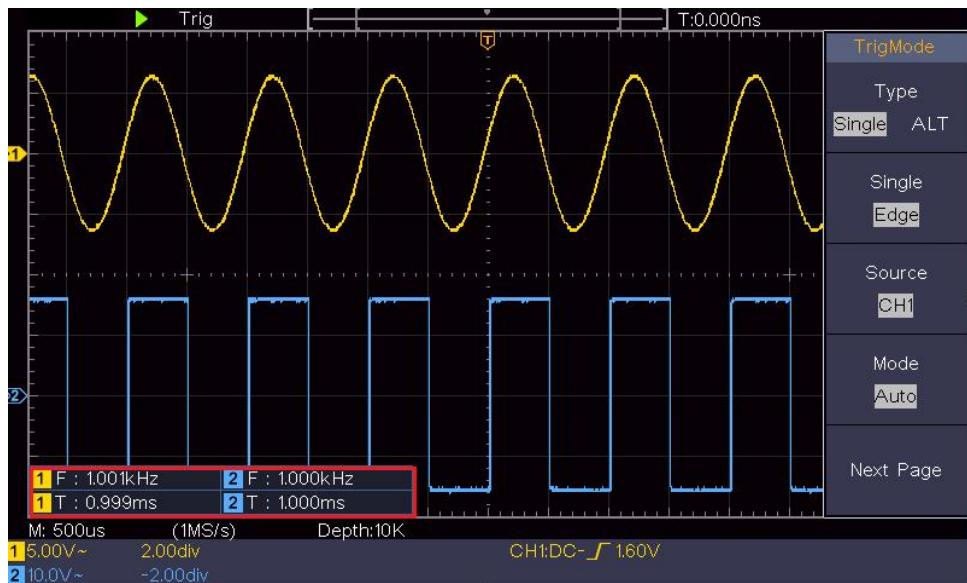

Figure 6- 1 Measure period and frequency value for a given signal
The measured value will be displayed at the bottom left of the screen automatically (see *Figure 6- 1*).
- (1)Push the **Autoset** button and the oscilloscope will automatically adjust the waveforms of the two channels into the proper display state.
- (2)Push the **Measure** button to show the right menu.
- (3)Select **AddCH1** in the right menu.
- (4)In the left Type menu, turn the **M** knob to select **PK-PK**.
- (5)In the right menu, select **AddCH1**. The peak-to-peak type of CH1 is added.
- (6)In the right menu, select **AddCH2**. The peak-to-peak type of CH2 is added.
- (7)Read the peak-to-peak voltages of Channel 1 and Channel 2 from the bottom left of the screen (see *Figure 6- 2*).
- (8)Calculate the amplifier gain with the following formulas.